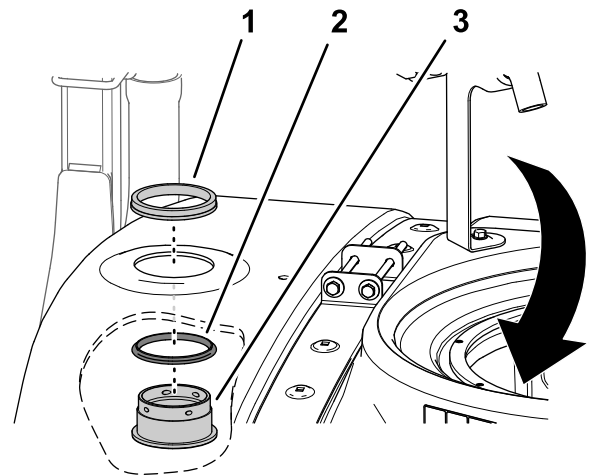

Figure 28
1. Install the seal over the bulkhead fitting (Figure 28).
2. Install the bulkhead fitting and the seal through the hole that you created in Drilling the Tank \(page 14\), from inside the tank (Figure 28).
3. Secure the bulkhead to the tank with the locking ring (Figure 28).